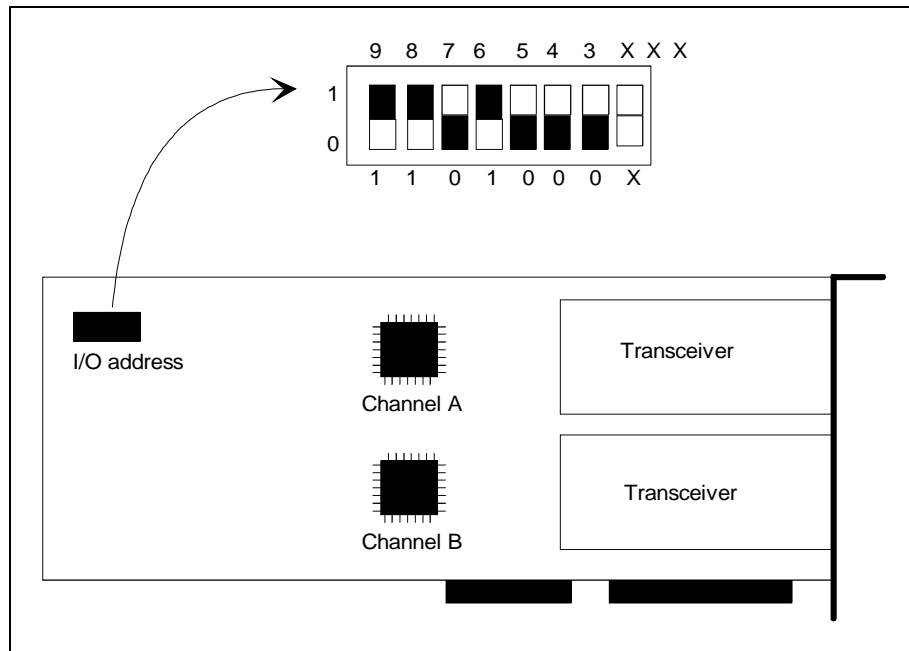

Figure 8. A PCLTA board
A PCLTA board may have one or two channels, thus allowing the connection of one or two transceivers, as shown in *Figure 8*. Each of the transceivers will be a NET line connected to a star coupler of a LON.
- 1 The operator selects an I/O base address for the PCLTA board and sets it on the board as described in the PCLTA manual, Table 4 may also be referred to. The operator can select any free I/O address where the next 7 addresses are also free. The driver installation tool suggests 340 as default value which is also the setting on the board at delivery (the setting shown in *Figure 8.*) Other possible values are 300, 308, 310, 318 ... 370 and 378 hex. The operator should note down the selected I/O address, e.g. in Table 4. This will be needed during the driver configuration.